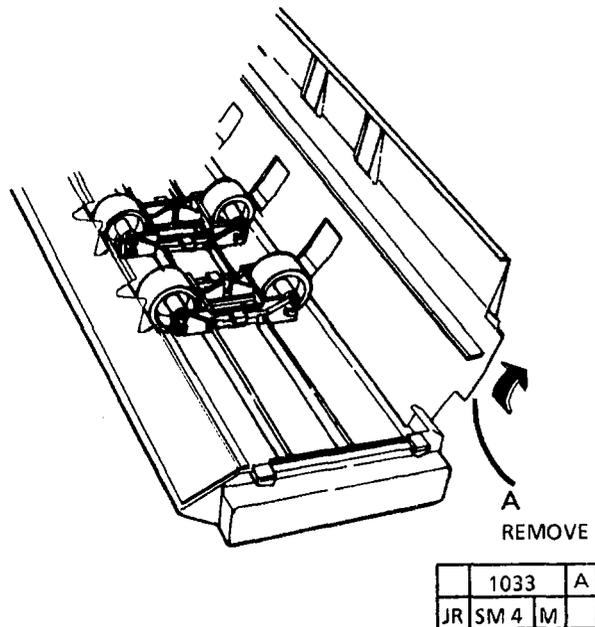

Figure 1. Remove the Transport Platen
3. (FIGURE 1): REMOVE THE TRANSPORT PLATEN.